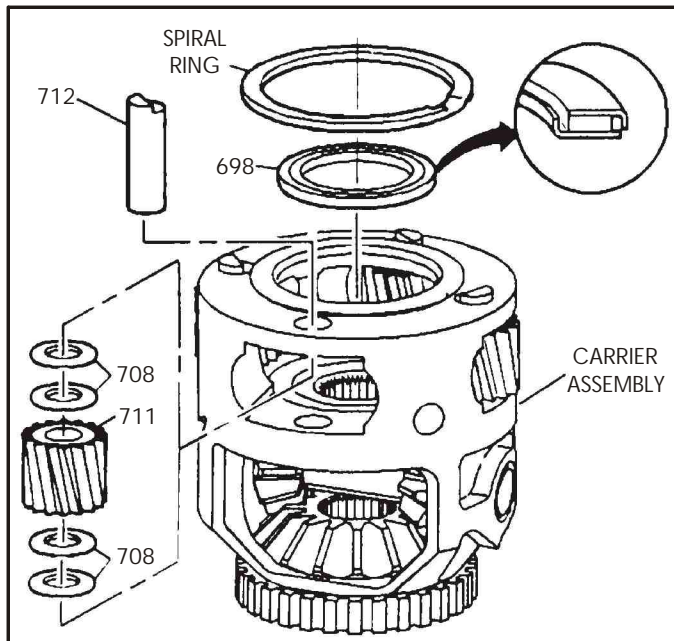

Figure 87
11. Install the differential carrier sun gear thrust bearing (698) into the carrier (See Figure 87). **Note:** Some ratio final drive carriers, this is a *trapped* bearing and *must* be installed *before* installing the pinion gears.
13. Install two pinion gear washers (708) on each side of the pinion gear (711) and retain with "Trans-Jel" (See Figure 87).
14. Install the pinion gear assemblies into final drive carrier housing (See Figure 87).
15. Install each planetary pinion gear pins (712).
16. Install the spiral snap ring (See Figure 87).